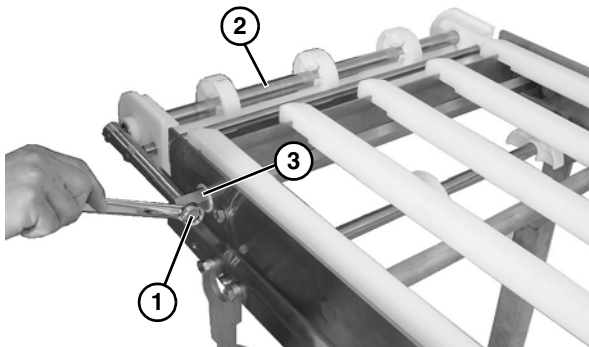

Figure 61
- Remove bolt (**Figure 61, item 1**) from each side, and remove idler tail assembly (**Figure 61, item 2**) from take up blocks (**Figure 61, item 3**).